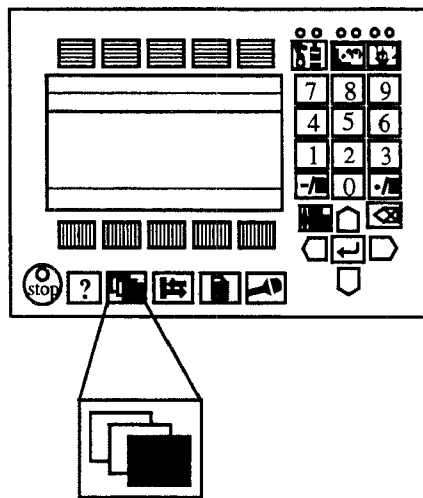

Figure 10 The Misc. window key from which the Service window can be selected
16. Press the **Misc.** window key (see Figure 10).